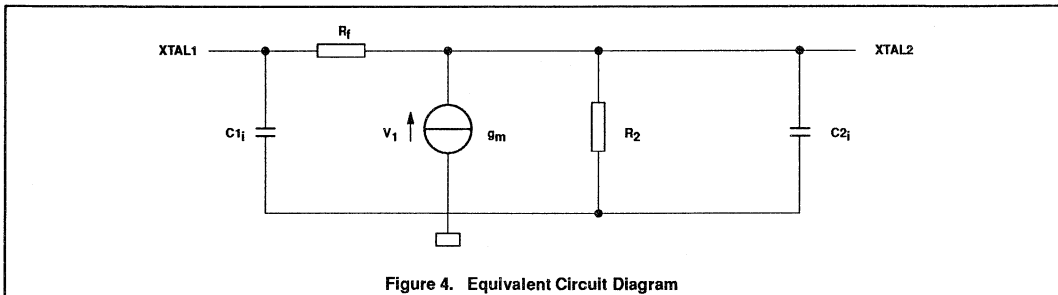

Figure 4. Equivalent Circuit Diagram
**Table 3. Oscillator Equivalent Circuit Parameters (see Figure 4)**